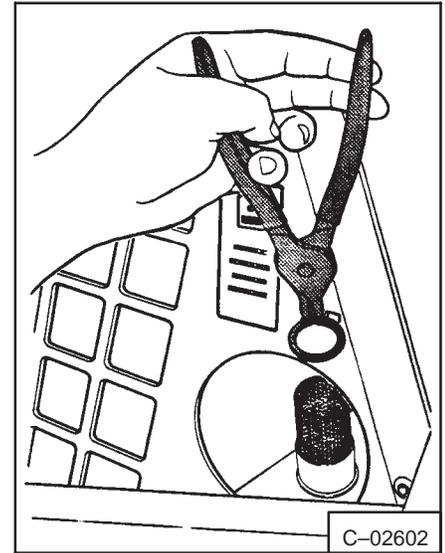

Fig. 1-38 100 Mesh Screen
3. Remove the snap ring and remove the 100 mesh screen from the reservoir fill pipe (Fig. 1-38). Wash the screen in clean solvent and install it in the fill pipe.